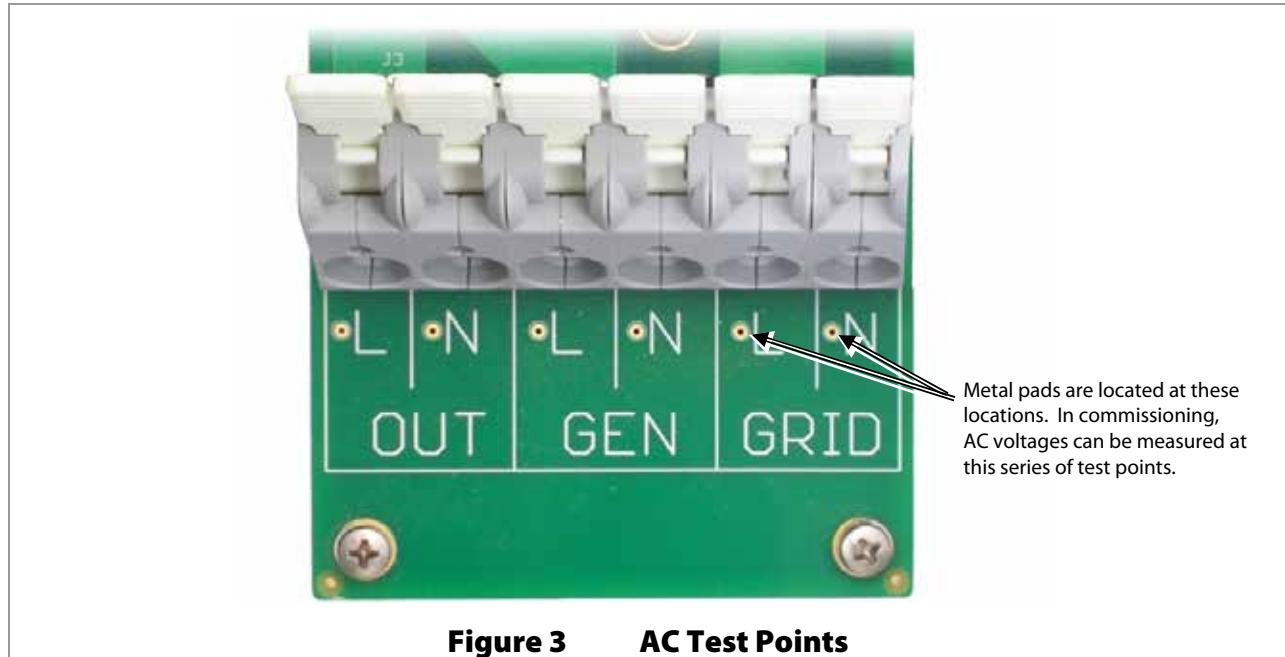

Figure 3 AC Test Points
4. Using a DVM or voltmeter, verify 230 Vac (or appropriate voltage) between the “L” and “N” OUT terminals. (See Figure 3 for AC test points.) The inverter is working correctly if the AC output reads within 10% of 230 Vac or the programmed output voltage.
4. Using a DVM or voltmeter, verify 230 Vac (or appropriate voltage) between the master “L” and “N” OUT terminals. (See Figure 3 for AC test points.)